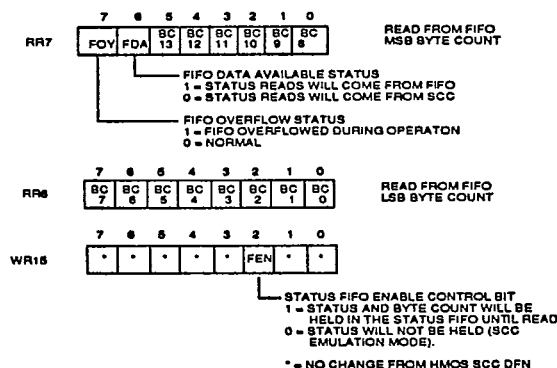

Figure 20. SCC Additional Registers.
**Enable/Disable.** This FIFO is implemented so that it is enabled when WR15 bit 2 is set and the SCC is in the SDLC/HDLC mode, otherwise the status register contents bypass the FIFO and go directly to the bus interface (the FIFO pointer logic is reset either when disabled or via a channel or power-on reset). When the FIFO mode is disabled, the SCC is completely downward-compatible with the NMOS Z8530. The FIFO mode is disabled on power-up (WR15 bit 2 is set to 0 on reset). The effects of backward compatibility on the register set are that RR4 is an image of RR0, RR5 is an image of RR1, RR6 is an image of RR2 and RR7 is an image of RR3. For the details of the added registers, refer to Figure 20. The status of the FIFO Enable signal can be obtained by reading RR15 bit 2. If the FIFO is enabled, the bit will be set to 1; otherwise, it will be reset.